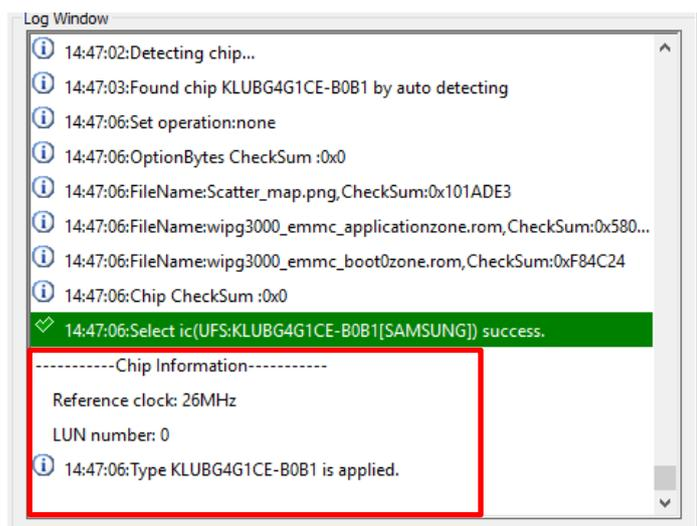

Fig. 5-40
Step 1. If the LUN number still remains at zero (Fig. 5-40) even after the IC and socket are installed, then it might indicate the LUN is unable to write, please partition the LUN first.